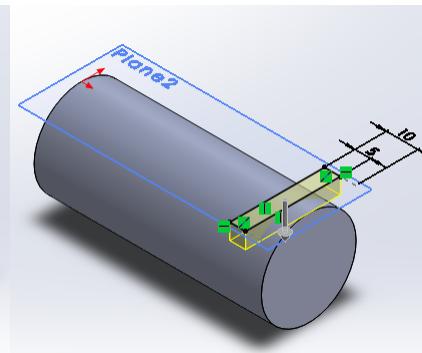

Fig19
- The sketch can be placed onto a horizontal plane which is tangential to the cylindrical surface. In this case the content of the sketch would be a rectangle (*Fig19*);